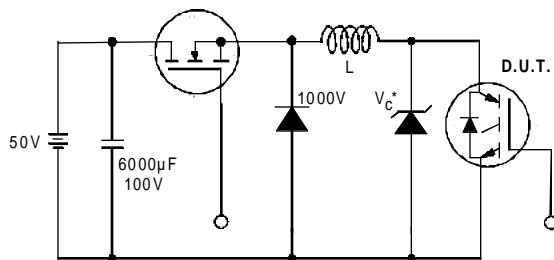

Figure 19. Clamped Inductive Load Test Circuit
- ② $V_{CC}=80\% (V_{CES})$, $V_{GE}=20V$, $L=10\mu H$, $R_G = 1\Omega$ (figure 19)
- ③ Pulse width $\leq 80\mu s$; duty factor $\leq 0.1\%$.
- ④ Pulse width 5.0 μs , single shot.